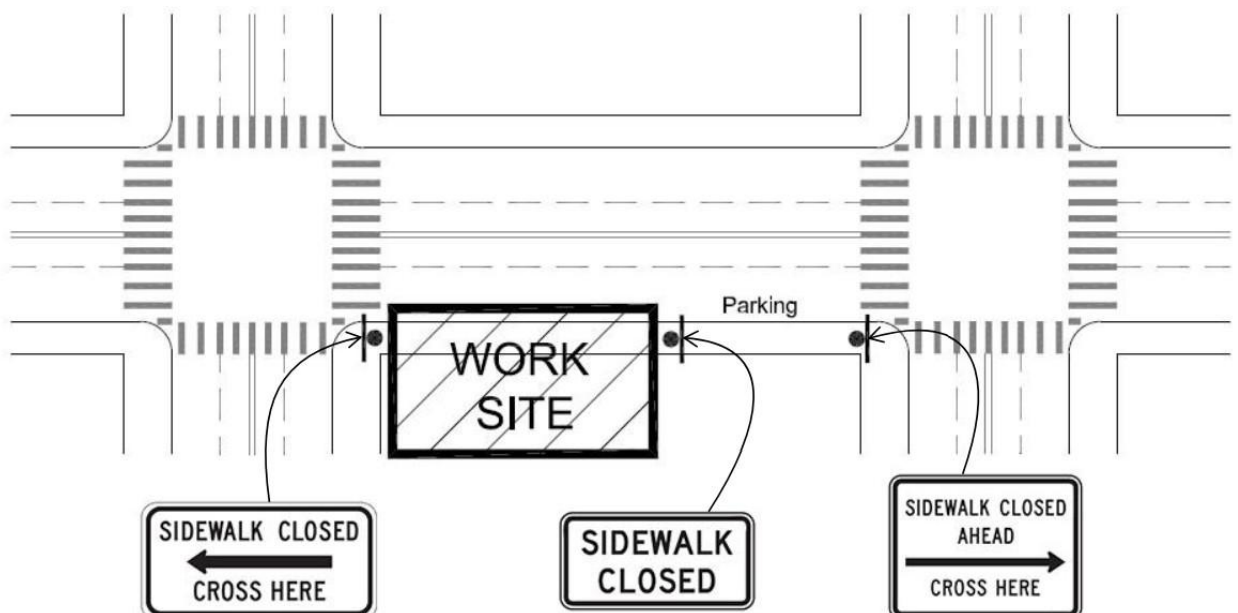

Figure 5.2b – Partial Block Sidewalk / Walkway Closure
- D. Closing a sidewalk mid-block full time on a major street (those larger than typical alleys) **may** be considered by the SFMTA if off-duty SFPD or SFMTA officers are provided full-time to direct pedestrians back to the last safe crossing, and proper signage is installed. See Figures 5.2b and 5.2c below.